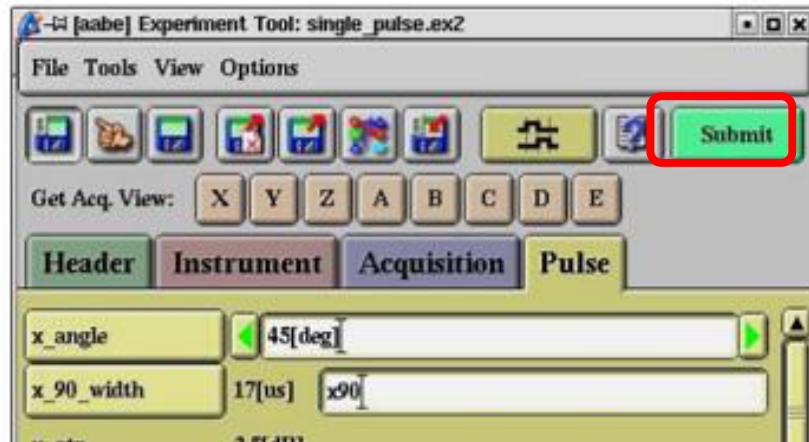

Fig. 3.8 Experiment Tool Window (Submit Button Highlighted)
- xii. After completing key in all needed parameter, then click "Submit" button, refer Fig. 3.8